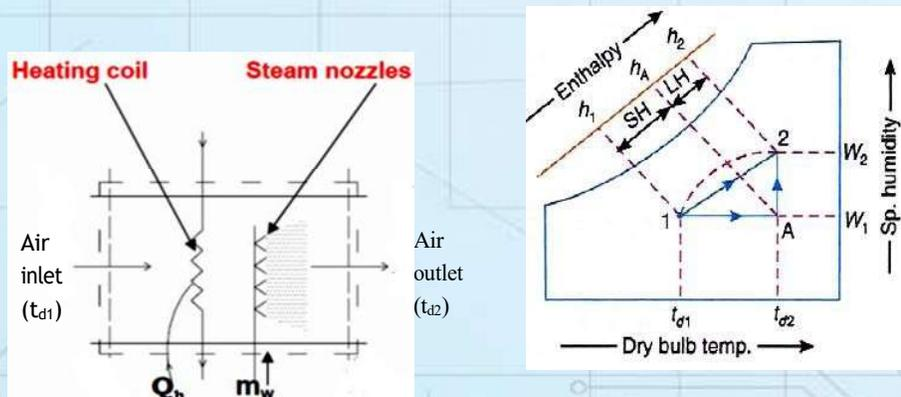

Fig.2.12 – Heating and humidification by heating & steam injection
- The heating and humidification process shown by a *line 1-2* to be followed by *path 1-A* heating and *path A-2* humidification as shown in Fig. 2.12..